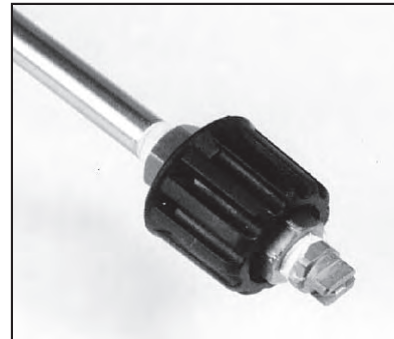

Figure 8
**Hi-Low** — Turn knob clockwise until it stops—Figure 8.